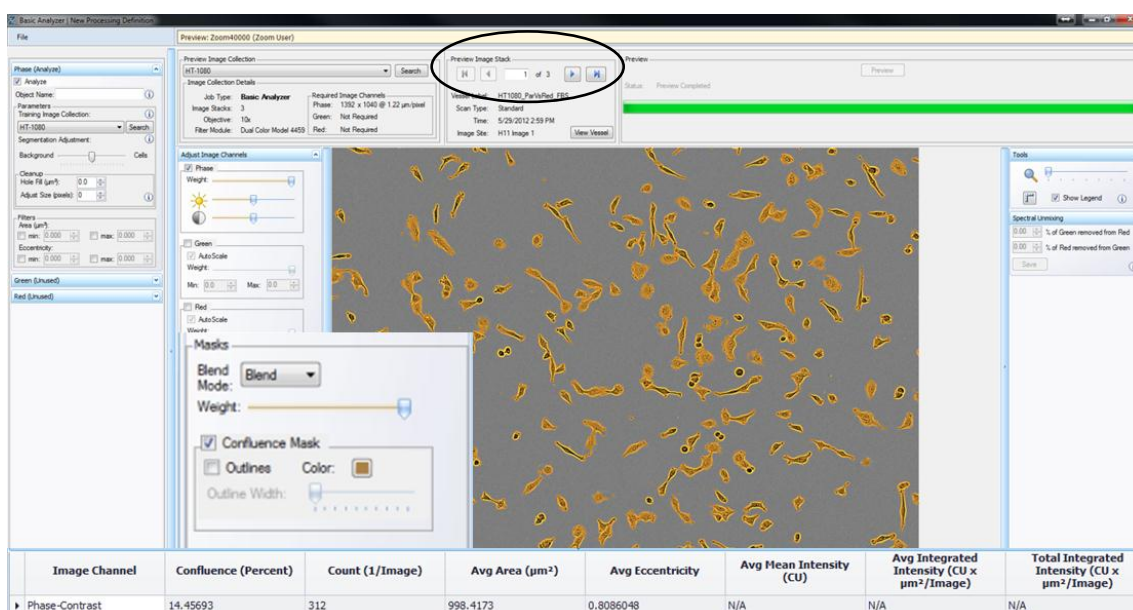

Figure 17. Processing Definition Preview
7. When the Preview Status is complete, select the “Confluence Mask” and evaluate your phase segmentation by previewing all images within your image collection (black circle Figure 17).